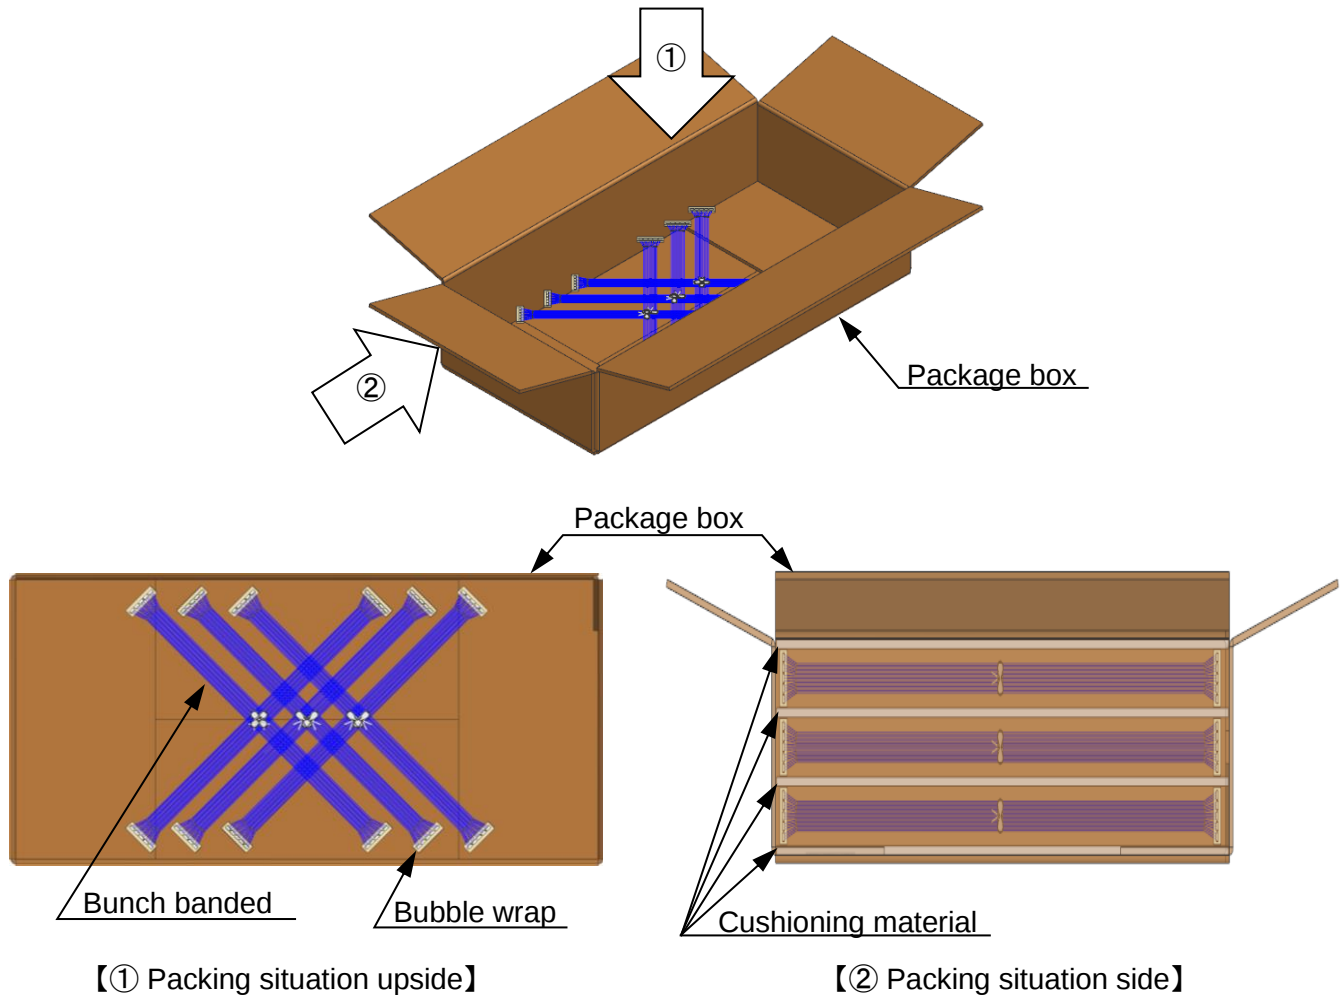

Fig.8-2 Packing condition
Figure below (**Fig.8-2**) is one of examples for recommended reference. Please take measure not to add force to connector for a long period of time by stacking if you pack by different packing method for long harness.
- ※ When packing bundle of harness after processing in a package box, please follow instructed packaging and avoid applying excessive load or force to harnesses. (cross shape) (**Fig.8-2 ①**)
- ※ Please lay air packing etc. on the bottom of package box. In order to prevent force from applying to connectors for a long time by piling up package boxes, please lay air packing etc. (**Fig.8-2 ②**)